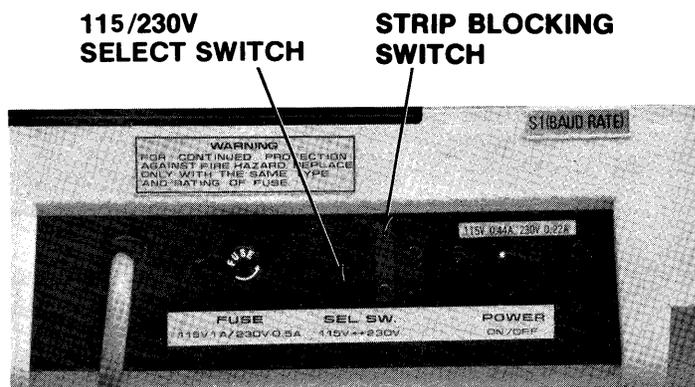

Figure 2-2 115/230V Select Switch
2. Set the power select switch to 115V or 230V (remove and reinstall the switch blocking strip as necessary. (see Figure 2-2).
2. Power selector switch set for local power? (see Figure 2-2)